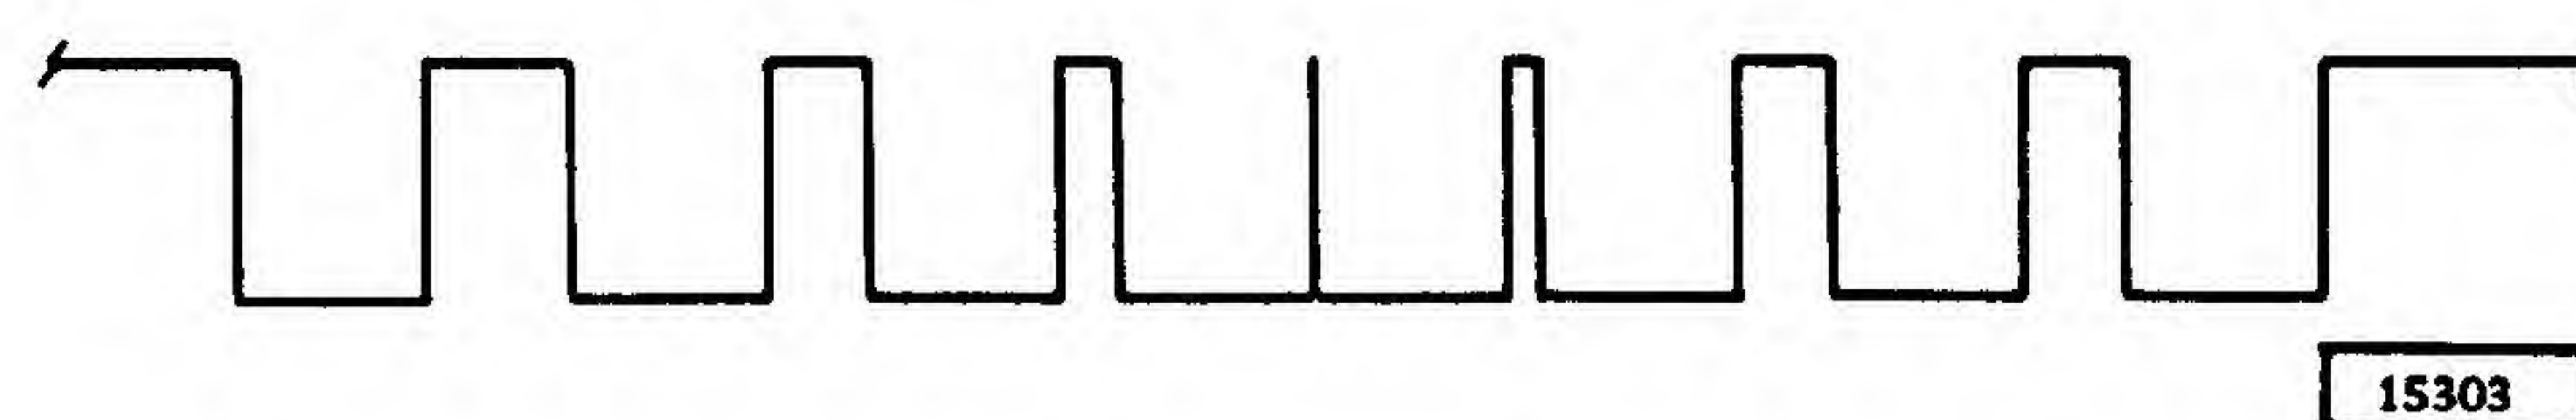

Figure 1-3. Short Stroke
2. Set address 50 in the access register. Set and reset the register and observe 01A5E12F with an oscilloscope. If the signal looks like Figure 1-3, the integrator pulse is too narrow and should be increased until the minus level is at a maximum.